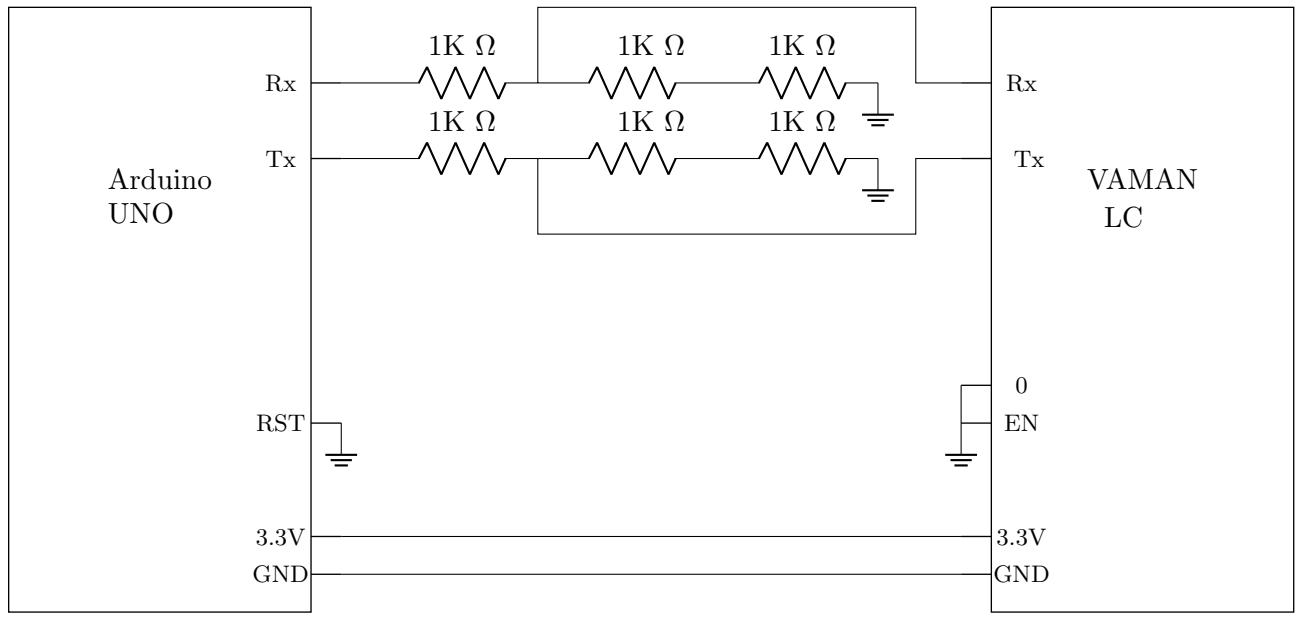

Figure 1.1: Circuit Connections
1.1.1.2. Make connections as shown in Table 1.1 and Figure 1.1.